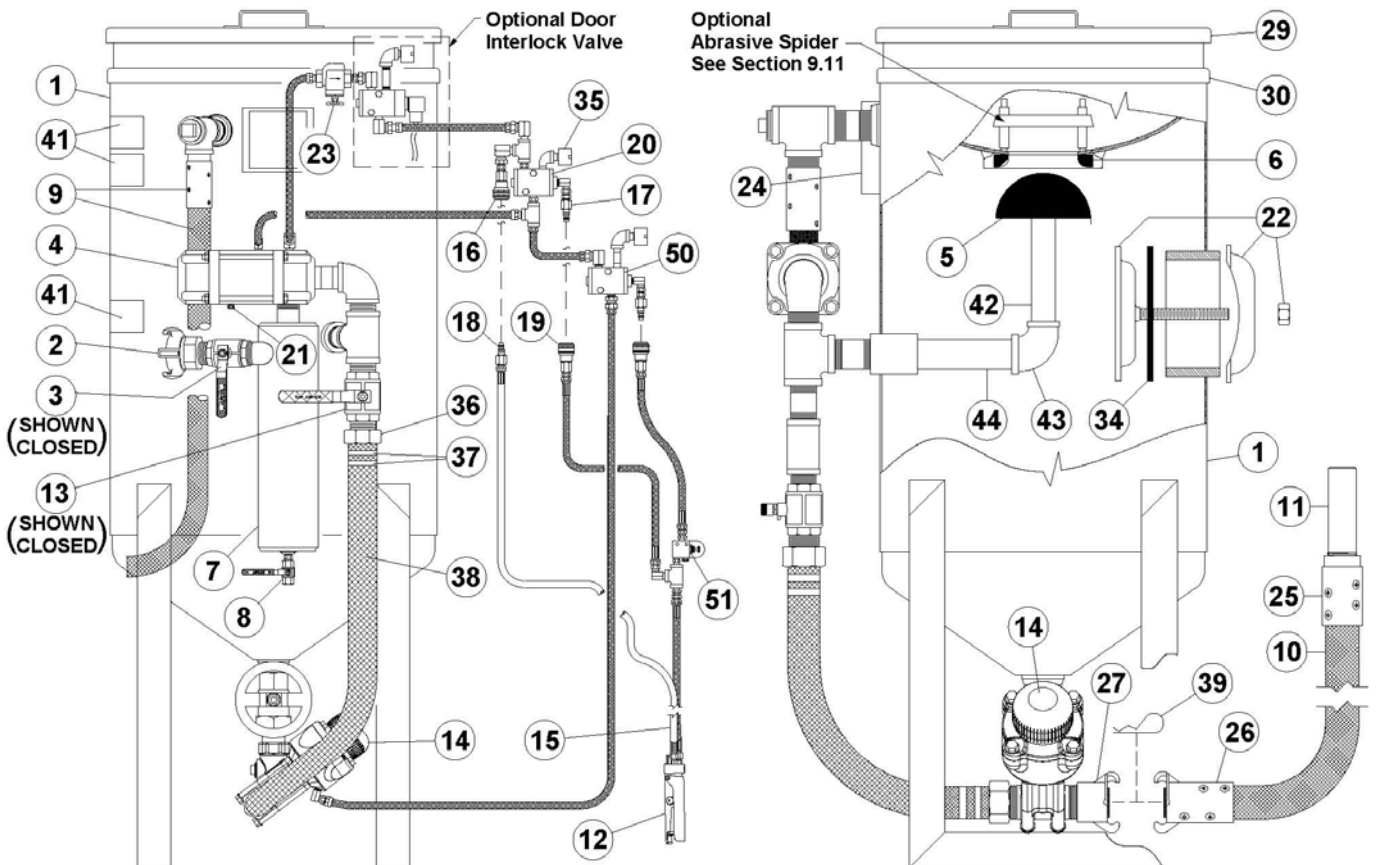

Figure 8.4(b) – Thompson®/Combo Abrasive Blaster with pneumatic blast controls
- 8.11. **Thompson® Valve Blaster Blowdown Ball Valve:** The blowdown ball valve (#4) is used to depressurize the Thompson Valve abrasive blaster pressure vessel (#1). See Figure 8.4(a). The blowdown air flow can carry abrasive from inside the pressure vessel which can wear the blowdown ball valve (#4) and piping. This wear will cause the blowdown ball valve (#4) to be difficult to open and/or close, and/or result in the inability to close properly (air leaks), and/or wear of the attaching pipe fittings. If and when any of these conditions develop they will be noticeable during daily blowdown operation. When any malfunction is detected the blowdown ball valve (#4) and attaching fittings should be replaced.